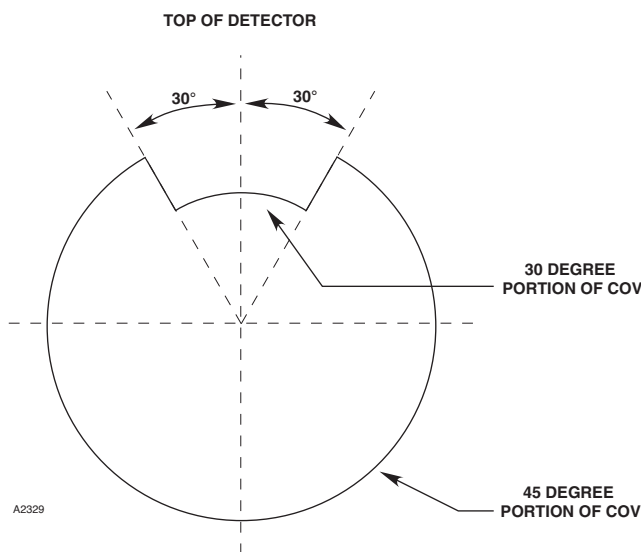

Figure 4—30 Degree and 45 Degree Portions of the Detector's Cone of Vision
3. Refer to Figure 4 for an illustration of the 30 degree and 45 degree portions of the COV.